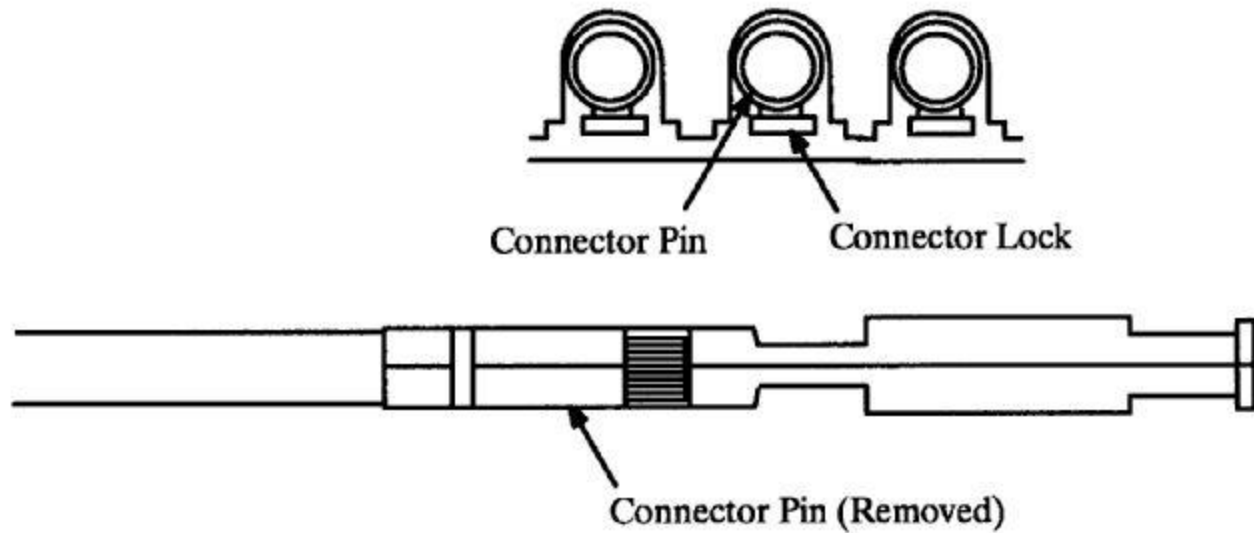

Figure 3.
7. Gently pry and hold the connector lock away from the pin (Figure 3). Pull the pin through the connector body from the back side of the connector.